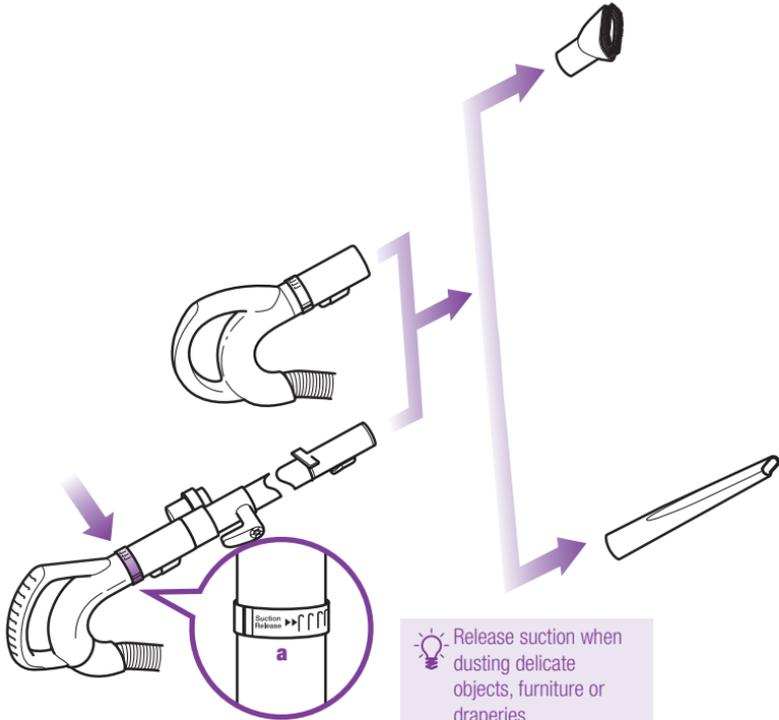

Fig. 14
- 2 Attach desired accessory onto the end of either the extension wand or the handle. (Fig. 14)
- 3 **Adjust the amount of suction with the suction release on the handle. Open the valve (a) by rotating the collar 90° counterclockwise for low suction when doing light jobs such as drapes or fine surfaces. Close the valve (a) by rotating the collar clockwise 90° for high suction and when using the hand held power brush. (Fig. 14-a)**